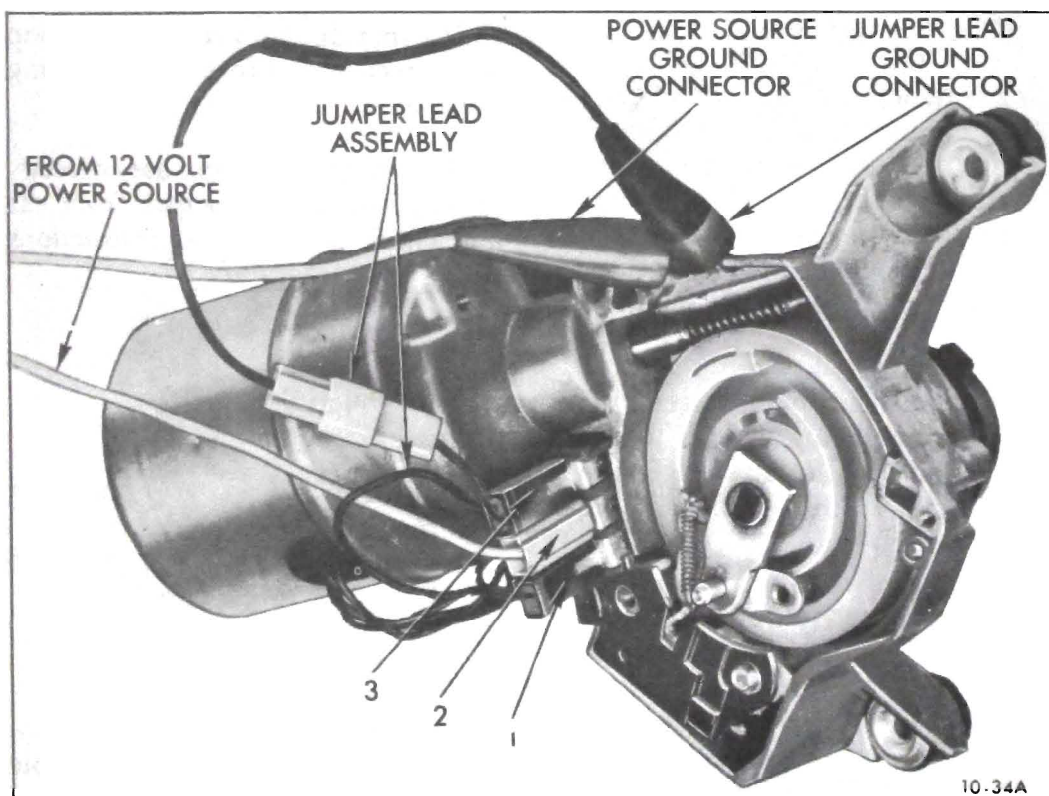

Figure 10-56 Connection to Operate Wiper Out of Car
1. *Preliminary Test.* Try operating wiper as shown in Figure 10-56. Check if wiper has low speed, high speed, and shuts off correctly.
(b) Connect wiper to operate in "LO" speed (Figure 10-56). Connect ammeter (Range 0-30 amps.) in feed wire circuit to wiper and observe current draw. Allow motor to run until it becomes hot.